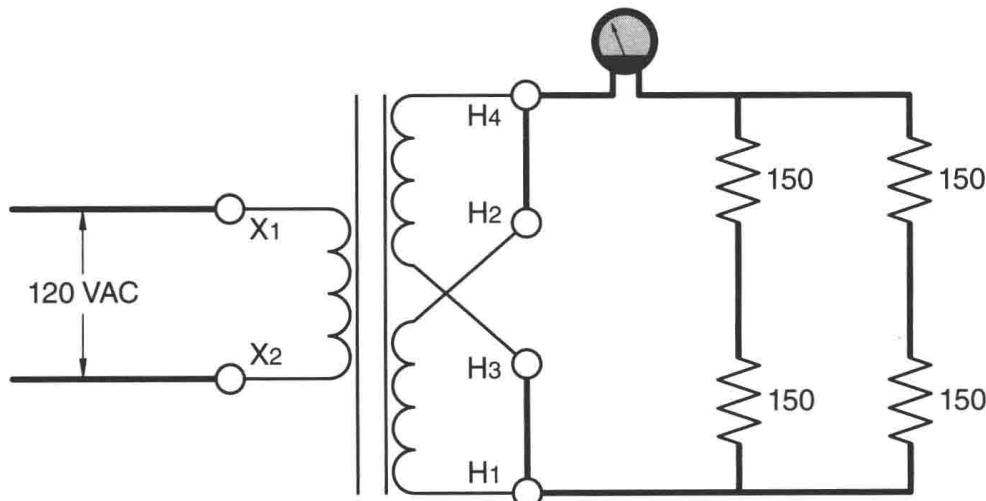

Figure 20-7 Adding load to the secondary.
32. Reconnect the AC ammeter in series with the secondary winding. Add two more 150-ohm resistors that have been connected in series to the secondary circuit. These two resistors should be connected in parallel with the first two resistors, seen in Figure 20-7.